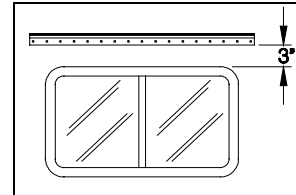

Figure 2
- Center rail over the window with the bottom of the rail positioned 3" above the window frame. (Figure 2)